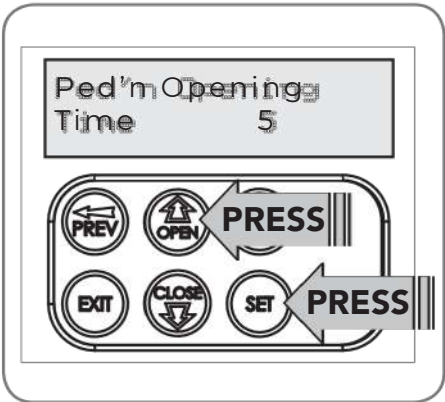

Fig 14.2
- a. Press OPEN to change the pedestrian access position (Fig. 14.2).